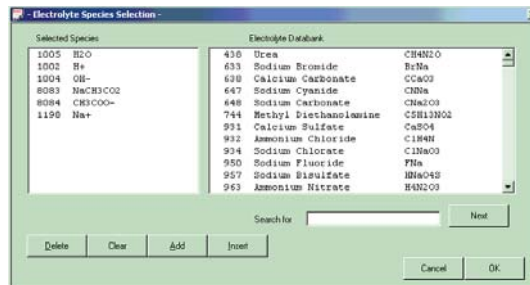

Figure 1: Electrolyte Species Selection Dialog
5. In the Electrolyte Species Selection box, add 1198 Na^+ , and the components you created for NaCH_3CO_2 and CH_3COO^- , as shown on Figure 1.